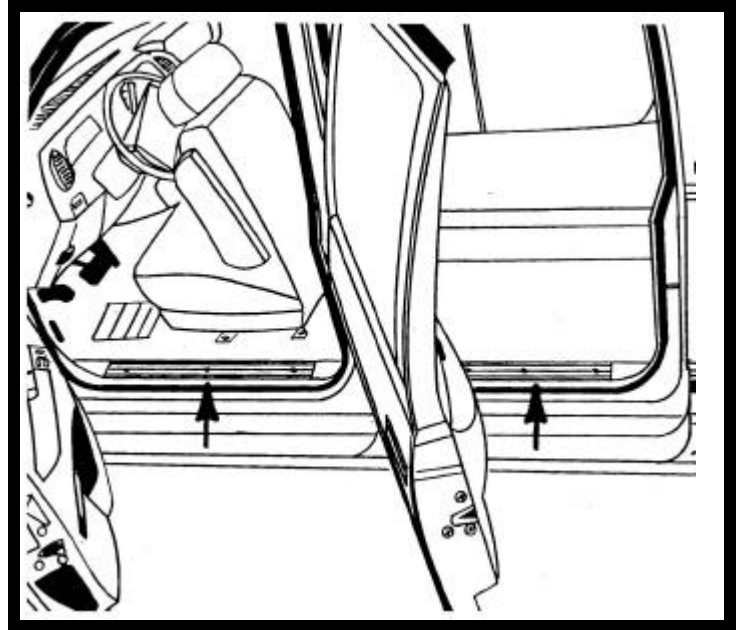

FIGURE 8
10. Remove and retain the (2) two door scuff plates on driver's side. See Figure 8.